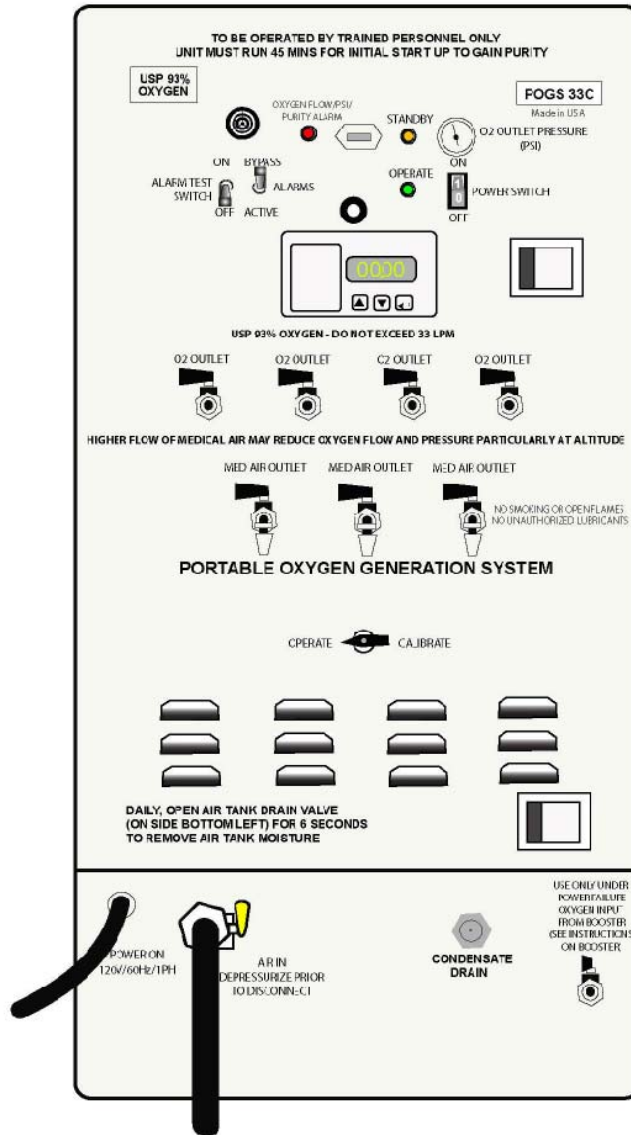

FIGURE 1-1: POGS 33C Generator Control Panel
- D. Verify that the (3) Medical Air Outlet Valves and all (4) Oxygen Outlet Valves on the Generator Control Panel (Fig 1-1) are in the closed position (9:00 position).
At altitudes of 5,000 FT or above, the Generator (Fig 1-1) may not switch to standby mode. As altitude increases, the pressure, flow, and purity may decrease as the density of oxygen and air decreases. If the Generator does not switch to standby mode within 5 minutes, and no oxygen leaks are observed, continue with the procedure in Section 3.2. See Altitude Chart below.
3.3.1 Carbon Monoxide (CO) and Dew Point Monitor
- The display of the monitor, visible when the Generator Control Panel (Fig 1-1) is opened, will display the current CO content of the feed air. The display also will indicate if there is proper flow through the sensor and indicate the dew point of the medical air.